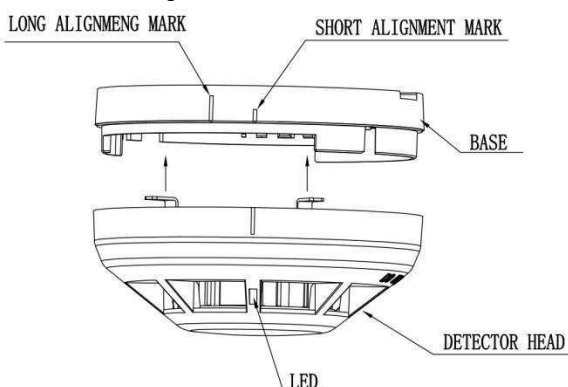

Fig. 3: Fitting the detector to the base
1. Align the components as shown in Fig. 3.